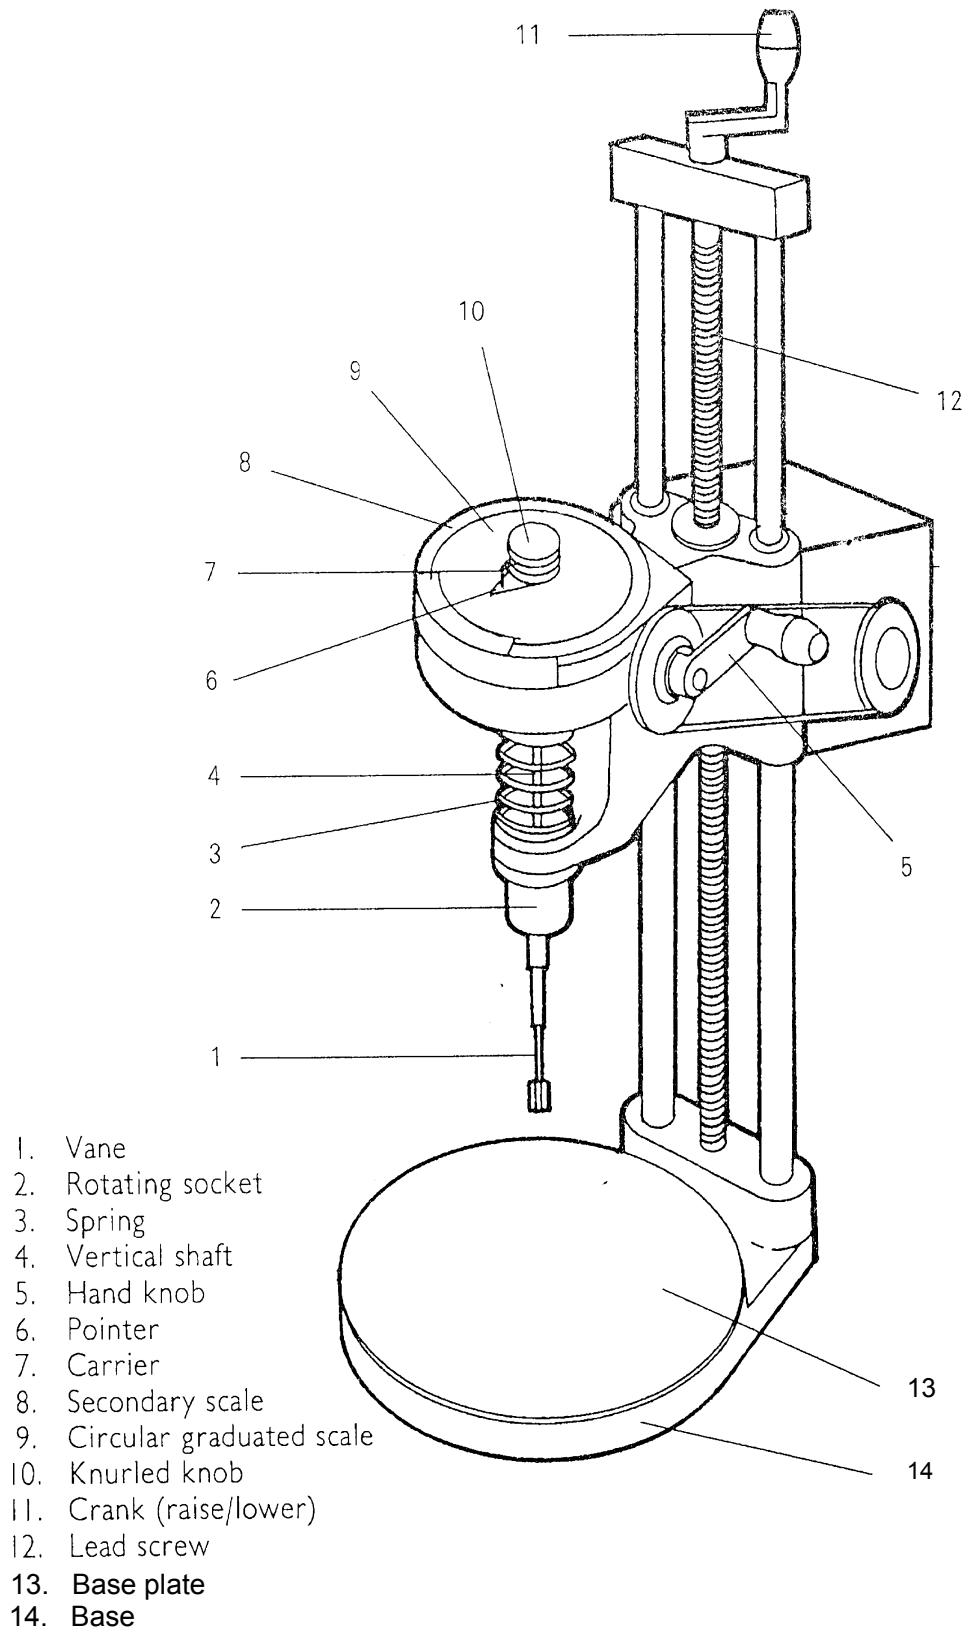

Figure 1
- 5.1 This is attached to the base (15 figure 1) after lifting off the base plate (14 figure 1) The tube locating block (1) is secured to the base with thumbscrews (2) in either of the positions shown. The sample tube is clamped to the block using U bolt (3) or (4) depending on the sample tube size.